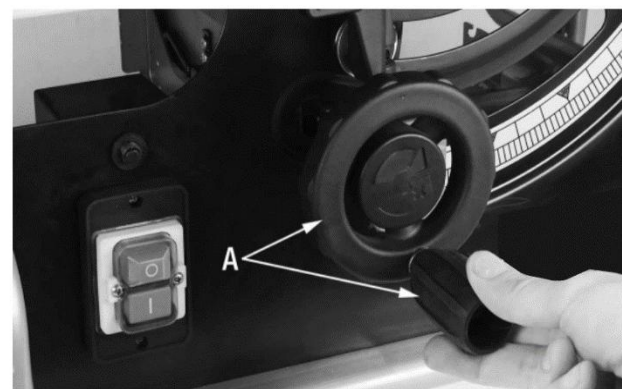

Figure 5
2. Turn the blade height adjusting handwheel (A) Fig.5 counterclockwise and raise the blade to its highest position above the table.